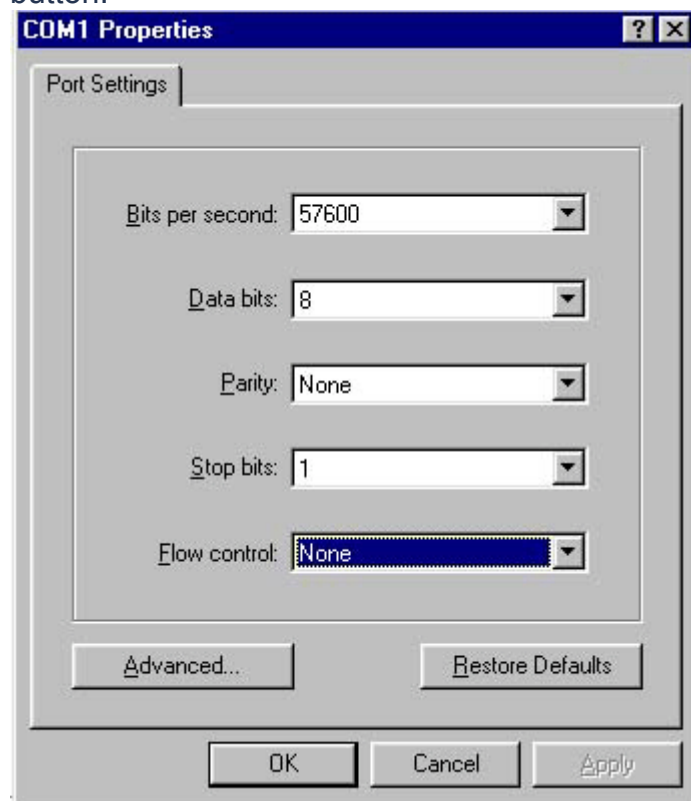

Fig. 5
6. In the COM1(COM2) properties fill the blanks as shown in Fig.5. And click the OK button.